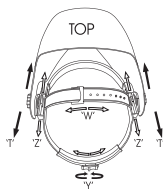

Fig.5
- **Adjusting the fit of the helmet.** The overall circumference of the headgear can be made larger or smaller by rotating the knob on the back of the headgear. (See adjustment "Y" in fig.5). This can be done while wearing the helmet and allows just the right tension to be set to keep the helmet firmly on the head without it being too tight.
- If the headgear is riding too high or too low on your head, adjust the strap which passes over the top of your head. To do this release the end of the band by pushing the locking pin out of the hole in the band. Slide the two portions of the band to a greater or lesser width as required and push the locking pin through the nearest hole. (See adjustment "W" in fig.5).
- **Step 1:** Undo the block nut (See "T" in fig.5) to adjust the distance between the helmet and your face in the down position.
- **Step 2:** Loosen the block nut on either side of the helmet and slide it nearer or further from your face. (See adjustment "Z" in fig.5). It is important that your eyes are each the same distance from the lens. Otherwise